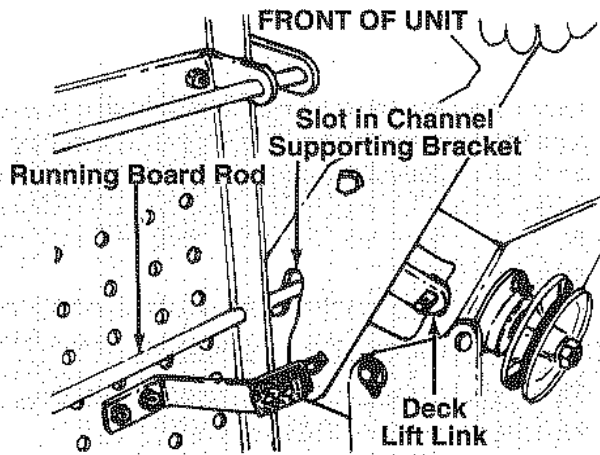
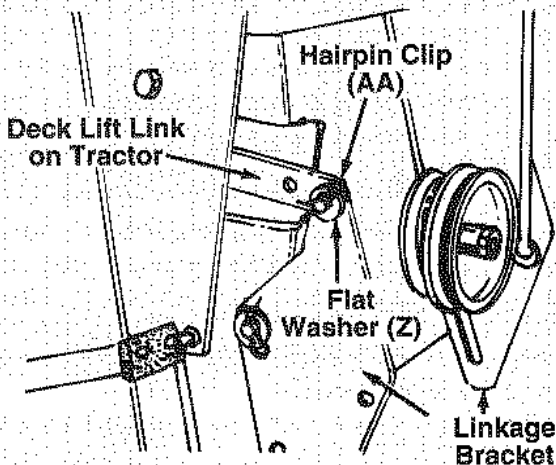

FIGURE 6.
FIGURE 8.
4. Place the channel assembly on the tractor as shown in figure 6. Hook the channel supporting brackets over running board rod. Make certain the two deck lift links on tractor slide through the channel assembly as shown in figure 8.
6. Secure deck lift links on tractor to linkage brackets with flat washers (Z) and hairpin clips (AA). See figure 8.